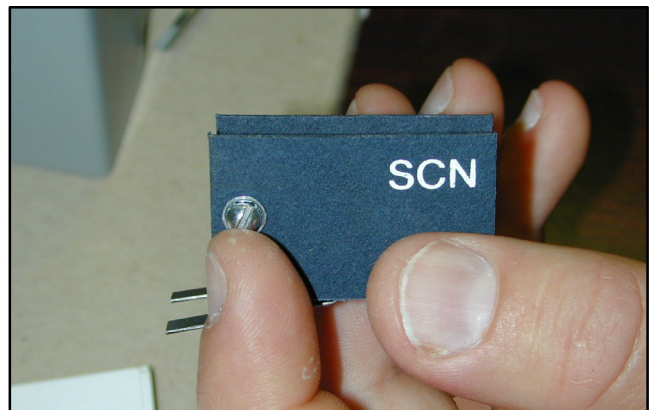

Figure 7-60 Microswitch Insulator with Label
7. Remove the holding screws. Note the microswitch labels on the insulators. See Figure 7-60.